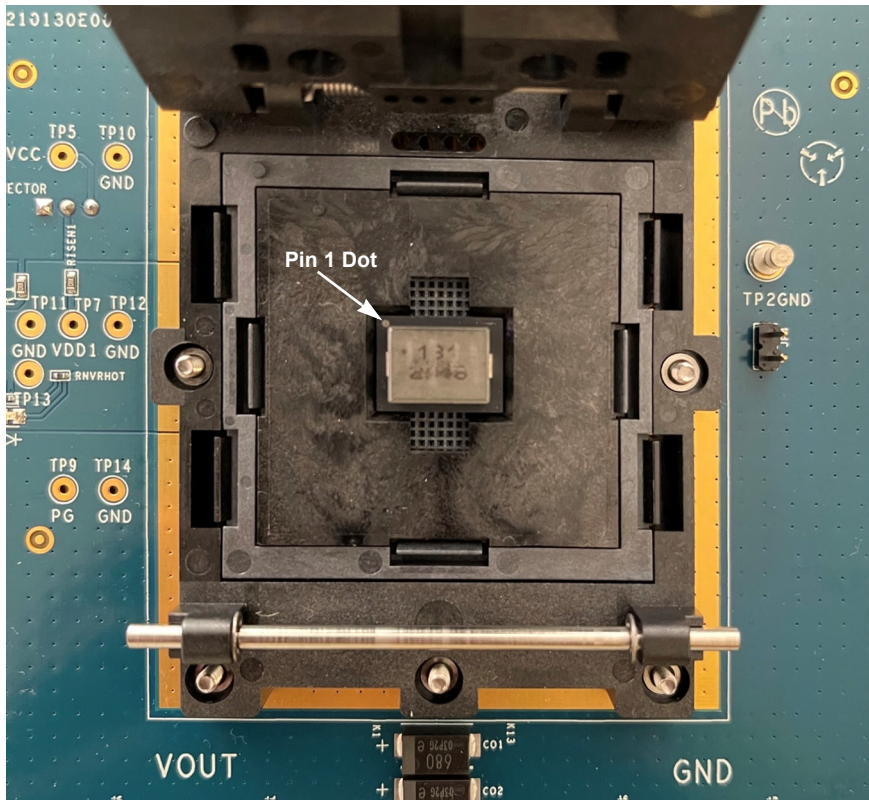

Figure 1. Photograph of Module in Socket Location of Pin 1 Indicated
4. Ensure the power supply at VIN is off. Open the latch on the socket and place the RAA210130 module in the socket. Location of Pin 1 of module is indicated in Figure 1. Close the latch of the socket to secure the module.